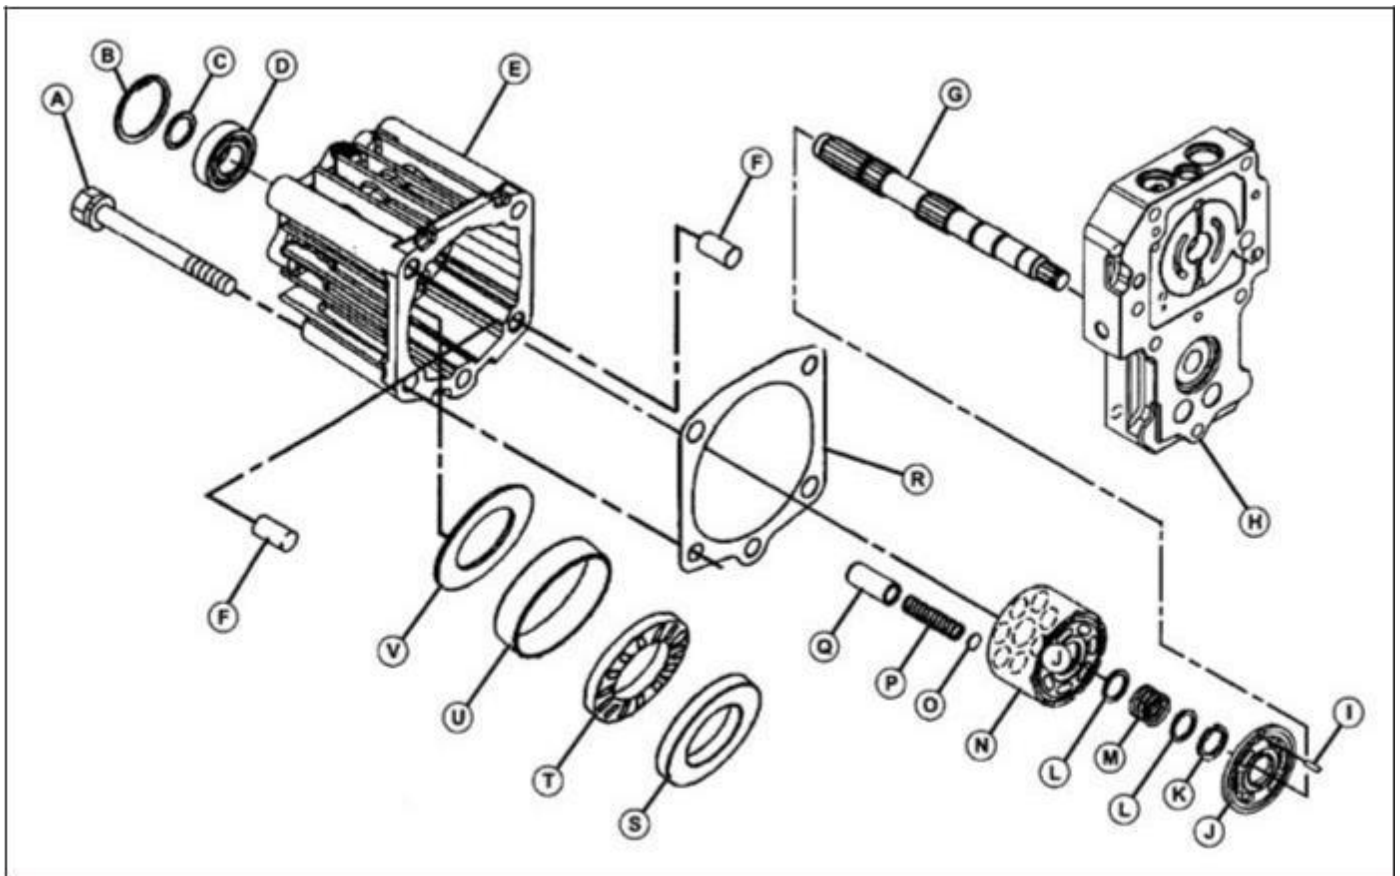

Fig. 56, Hydrostatic Transmission Motor Disassembly (4WD)
2. Remove two cap screws (A). (Fig. 56)
8. Thrust bearing (T) must rotate freely. (Fig. 56)
NOTE: Thin thrust plate (V), bushing (U) and motor case (E) must be replaced as a set. (Fig. 56)
9. Inspect thin thrust plate (V) for wear or damage. Re-place as necessary.
10. Remove snap ring (B) to remove shaft assembly components.
11. Inspect bushing (U), thrust bearing (T) and shaft (G) for wear or damage. Replace if necessary. (Fig. 56)